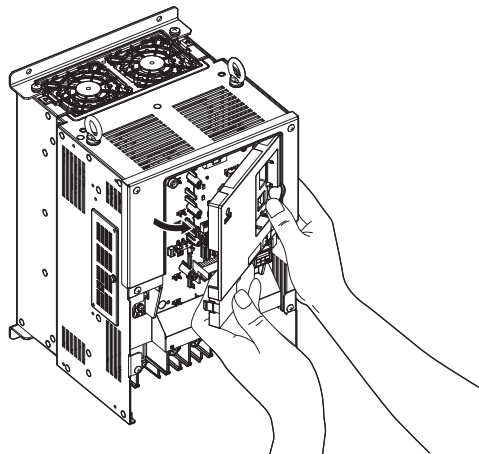

Figure 20 Remove the Front Cover (Models 2A0106 to 2A0432 and 4A0056 to 4A0260)
4. Unhook the left side of the front cover then swing the left side towards you as shown in Figure 20 until the cover comes off.